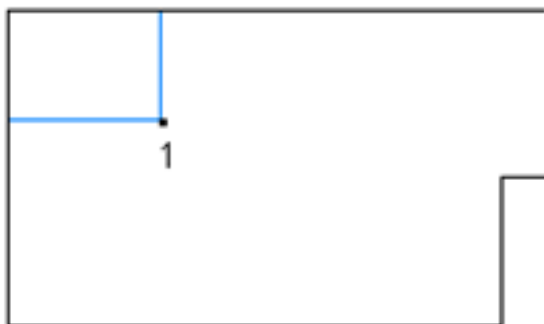

Fig. 4-6 Item 1 is located using rectangular coordinates.
- Rectangular coordinates – an object (item 1, see Figure 4-6) is located by making a measurement at right angles from each of two walls. Works well for indoor measurements.